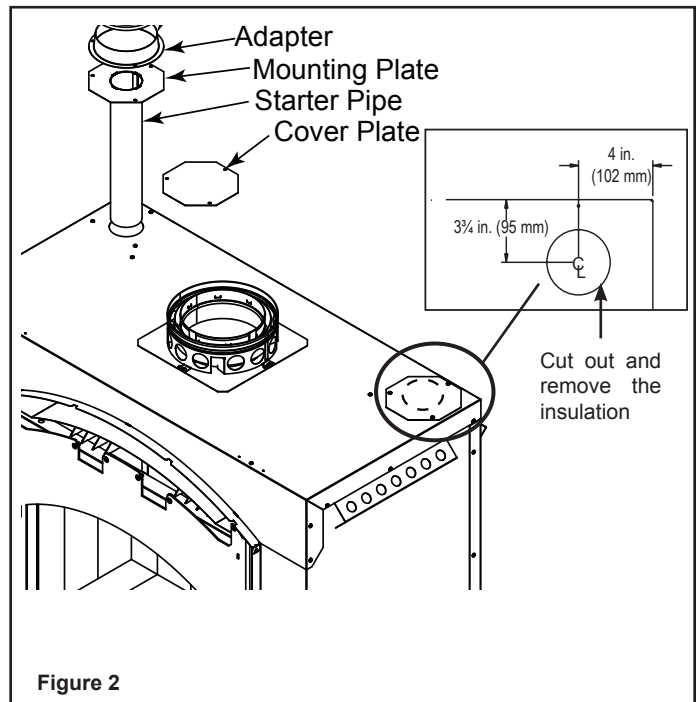

Figure 2
- 16" Snap Lock Starter pipe - cut to desired length (See Figure 2 on page 2).
- Remove the knockout or cover plate from the top of the fireplace and discard it. See Figure 2.
- Cut a 3 in. (76 mm) hole in the insulation board and remove it as per the dimensions shown in Figure 2.